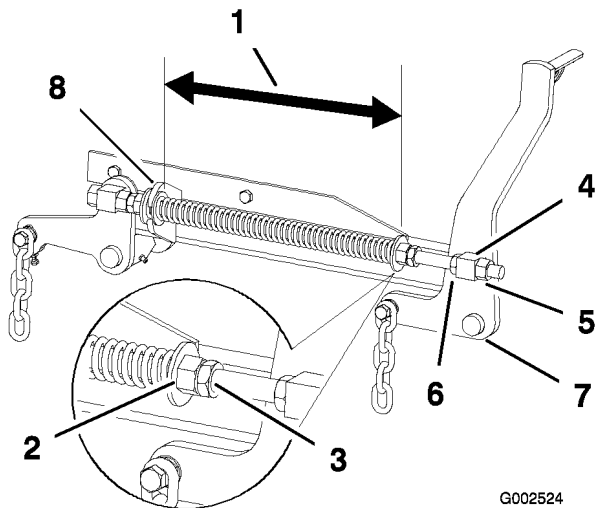

Figure 70
2. Check the distance between the two large washers, it needs to be 10-1/2 inches (26.7 cm) (Figure 70).
3. Adjust this distance, by loosening the spring jam nut and turning the nut in front of each spring (Figure 70). Turning the nut clockwise will shorten the spring; counter-clockwise will lengthen the spring.
4. Lock the nut into position by tightening the spring jam nut (Figure 70).